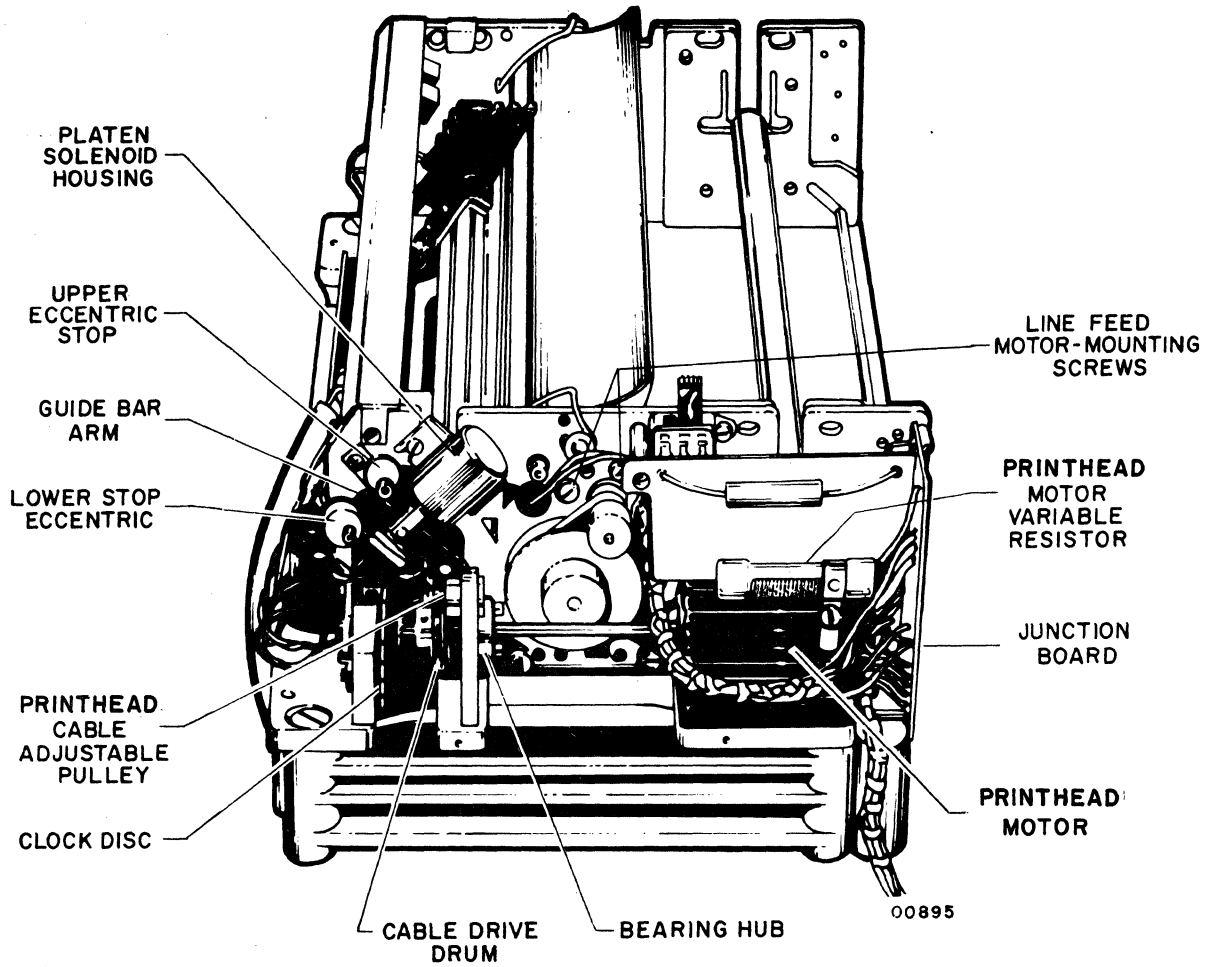

Figure NIP3. Printer, Right Side View
- 6) If adjustment of printhead home position is required, loosen two socket-head screws in cable drive drum (figure NIP3) and rotate drum until printhead is 3/16 inch from left side frame. Tighten screws.
This procedure contains instructions for adjustment of the printer to obtain proper printhead actuation and noise control. The platen solenoid housing must be positioned to prevent plunger bottoming and to ensure free plunger movement. The upper eccentric stop is adjusted to absorb some of the impact as the printhead contacts the paper. Uniform print density from top to bottom of a character and across the entire line is obtained by adjustment of the platen assembly. The lower eccentric stop is adjusted to provide proper guide bar arm travel between the two stops. The damper pad is adjusted to contact the solenoid plunger and reduce noise without restricting the plunger movement. (See figures NIP3, 6, and 7.)